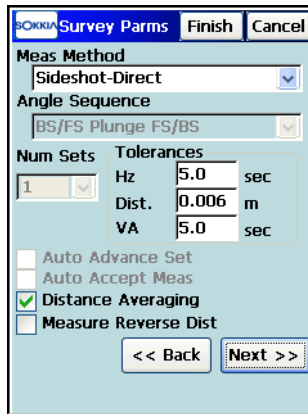

Figure 4-75. Survey Params
9. On the **Survey Parm**s screen, set the method for performing measurements and tap **Next** (Figure 4-75 on page 4-58).